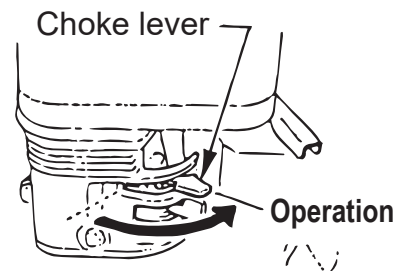

Fig. 18
6. When the engine has started, return the speed control lever to the low speed position immediately. Listening to the sound of the explosion, return the choke lever gradually to the fully open condition. (Fig. 18)